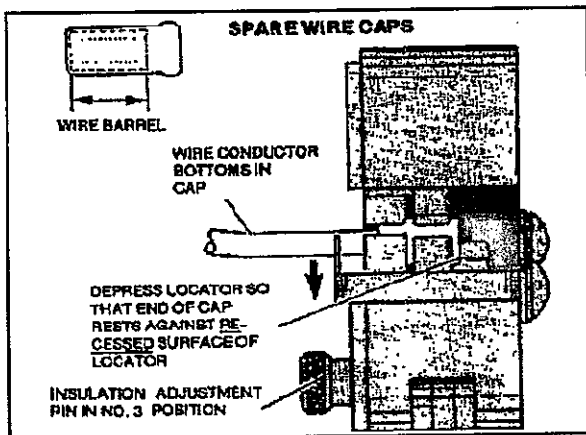

Fig 4
2.2.3 Spare Wire Caps (Refer to Figure 4)
- Depress locator so that end of cap resets against the recessed surface of the locator as shown in Figure 4.